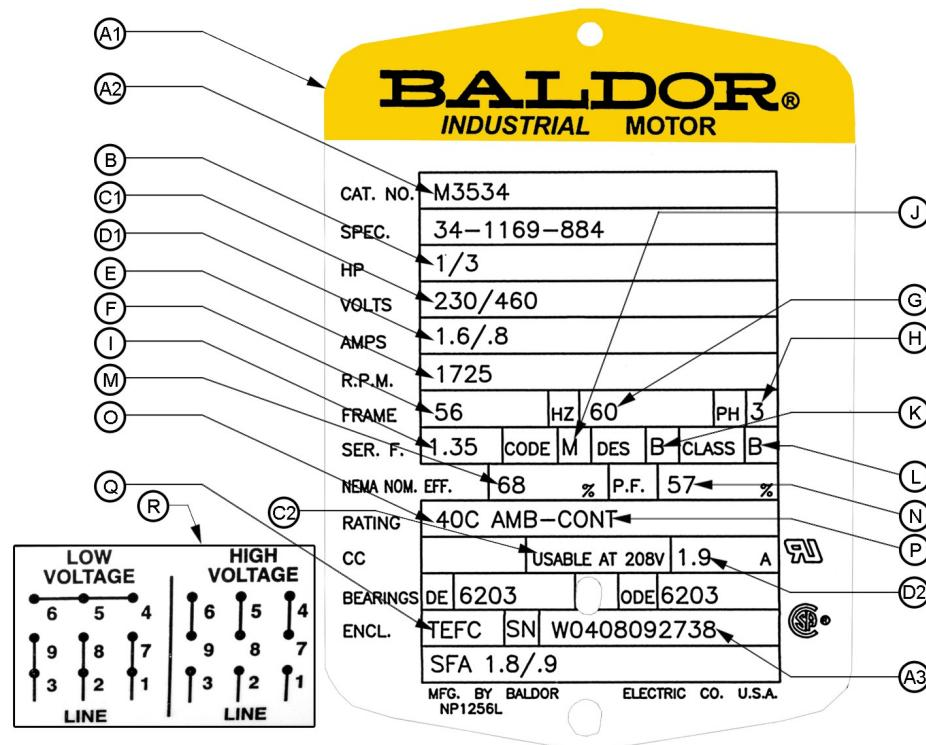

Figure 2-2. Three-phase motor nameplate.
A nameplate displays useful information about the motor. The nameplate portrayed in Figure 2-2 is for a standard, three-phase, nine-lead motor.
- S. **Motor type:** (not shown in Figure 2-2) Manufacturers classify motors by their electrical and mechanical characteristics (squirrel-cage, induction, split-phase, permanent magnet, etc.).